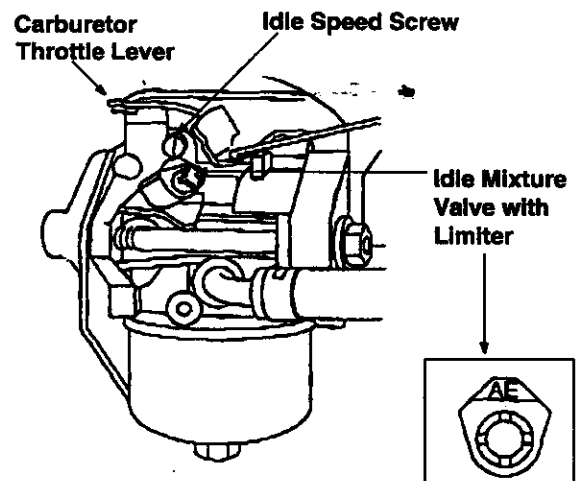

Figure 22
- Rotate carburetor throttle lever against the idle speed screw and hold it. Turn idle speed screw to obtain 1750 rpm. See Figure 22.
- Rotate idle mixture valve full travel clockwise and then counter-clockwise. Finally position idle mixture valve in middle of travel. See Figure 22.